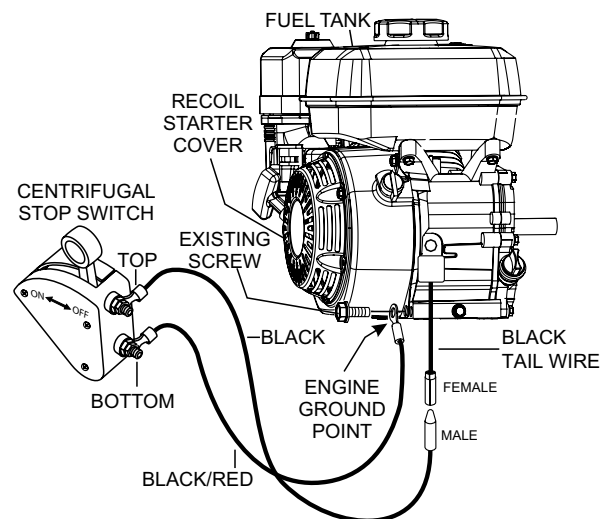

Figure 11. Safety Stop Switch Connections
Safety stop switches are equipped with 2 wires. Connect bottom **BLACK/RED** wire (Figure 11) directly to engine ground.
1. Connect the black tail wire from the engine to the **top black** safety stop wire from the centrifugal stop switch as shown in Figure 11.
2. Using a 10MM socket, remove the existing bottom mounting screw on the recoil starter cover (Figure 11) and connect the **bottom black/red** wire from the centrifugal stop switch to this engine ground point.